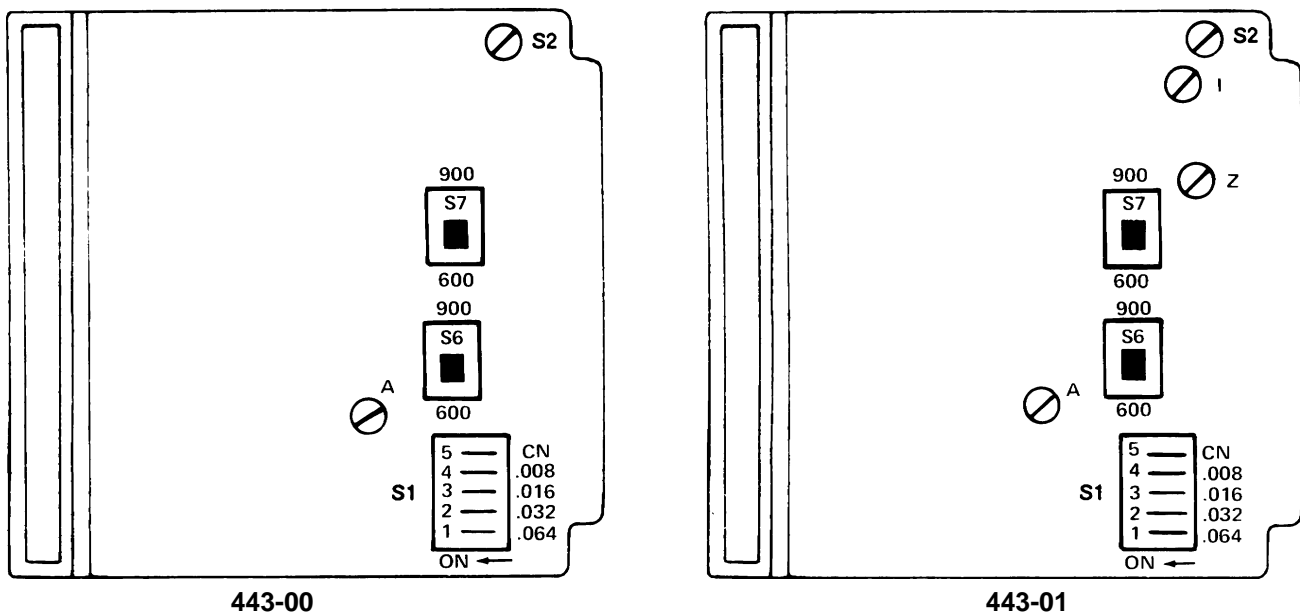

Figure 4. Option Locations
The 443-00/01 modules are equipped with options which provide the means to select a 600- or 900-ohm impedance match, an appropriate value of NBO capacitance, an internal compromise network, and an option for combining midpoint capacitance values which are derived from C11 and C5. In addition, both modules also have a provision for connecting an external precision balance network. Refer to Figure 4.
2.	If the ILT relay is operated with a $-48\text{VDC}$ supply, close option I and open option Z. Connect an insulated jumper wire from pin 25 B(-) at the rear term set mounting assembly to the $-48\text{VDC}$ supply and connect pin 29 SL(+) to the associated trunk. If the ILT relay is not required, open option I and close option A (see Figure 4).